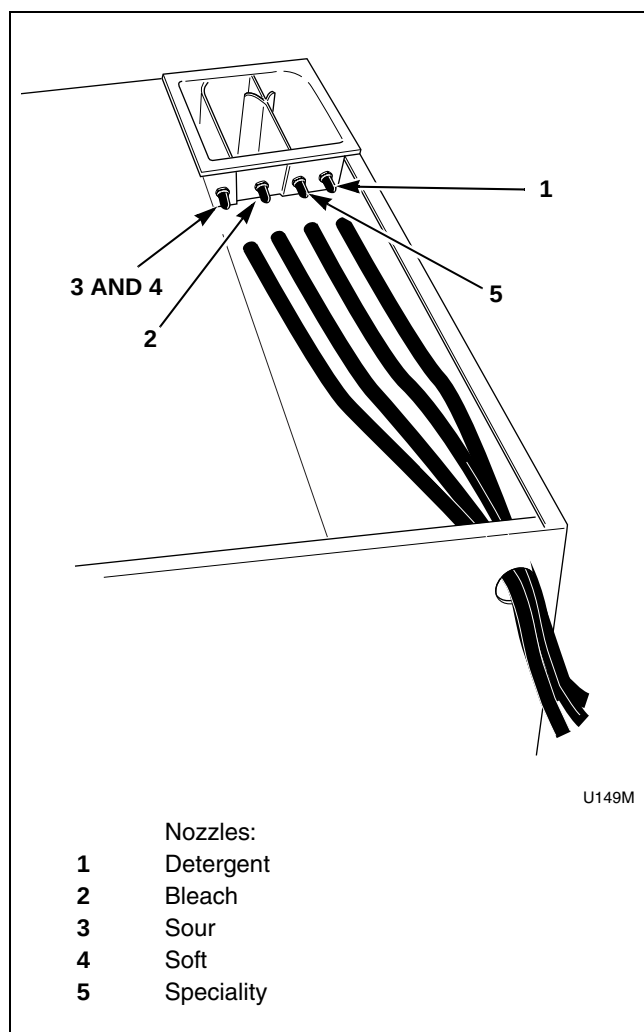

Figure 46
3. Locate the 4 capped nozzles on the rear of the liquid supply dispenser and remove caps. Refer to *Figure 46*.